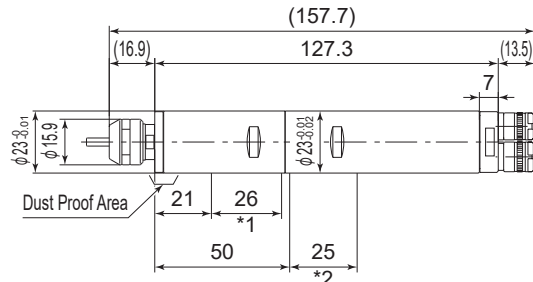
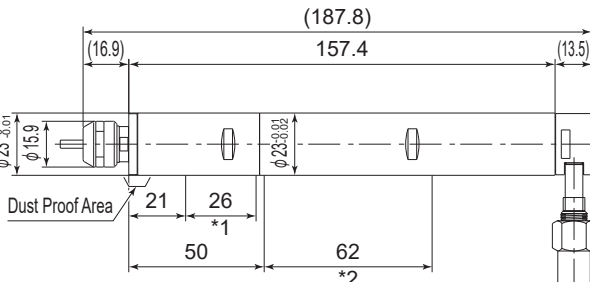

Fig. 1 R Type
Fig. 6 RA Type
- When mounting an Air Motor Spindle, refer to the Clamping Area etched on the Air Motor Spindle. These Air Motor Spindle have 2 Clamping Area refer to " 6 - 2 Outside View (Fig. 1- Fig. 6) ".